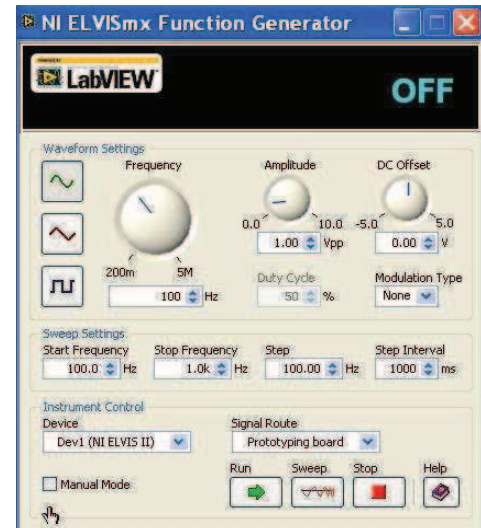

Figure 13
**Note 2:** If the function generator virtual instrument has launched successfully, the instrument's window will be visible (see Figure 13).